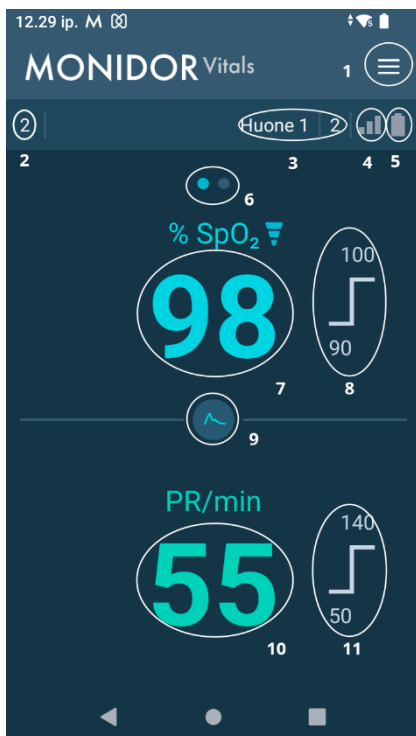

Figure 4: Wireless patient monitor main view
3. The wireless patient monitor displays the values measured by the pulse oximeter (Figure 4) and sends them to the Monidor Vitals cloud application. Ensure that the patient monitor is connected to remote monitoring by checking that the device card is visible in the remote monitoring application and that the patient monitor is not alerting about a connection problem.
Components of the wireless patient monitor main view (Figure 4)